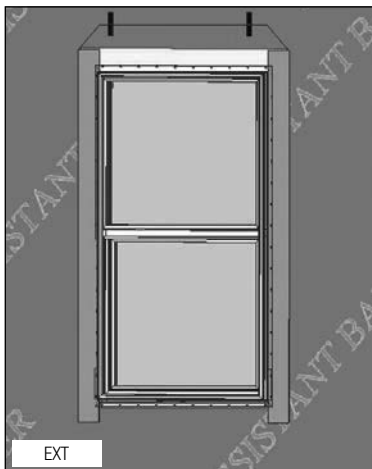

FIG. 14
- A) Cut and apply side flashing. Side flashing should run from the bottom of the sill flashing to 8" above the rough opening. (Fig. 14)